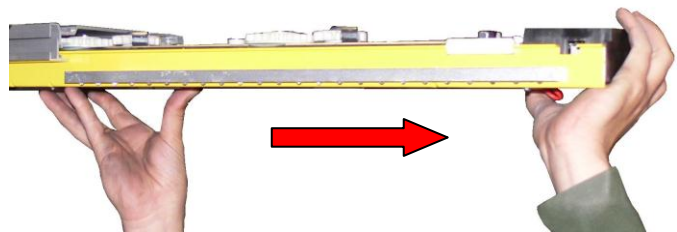

Figure 5 – Remove motor from track
7. Slide the **CommandLIFT™** Motor Unit out of the aluminum track (see Figure 5, below).